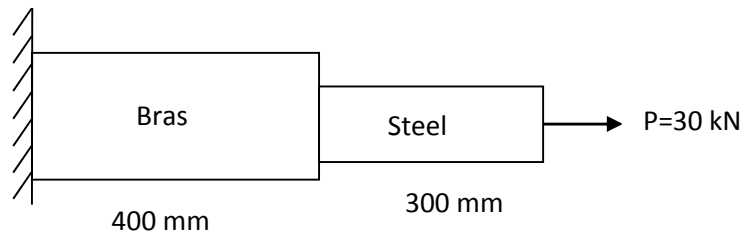

Fig.1
- b) The composite bar shown in Fig.1 is subjected to a tensile force of 30 kN. The extension observed is 0.372 mm. Find the Young's modulus of brass of 20 mm diameter. If Young's modulus of steel of 30 mm diameter is 2×10^5 N/mm².